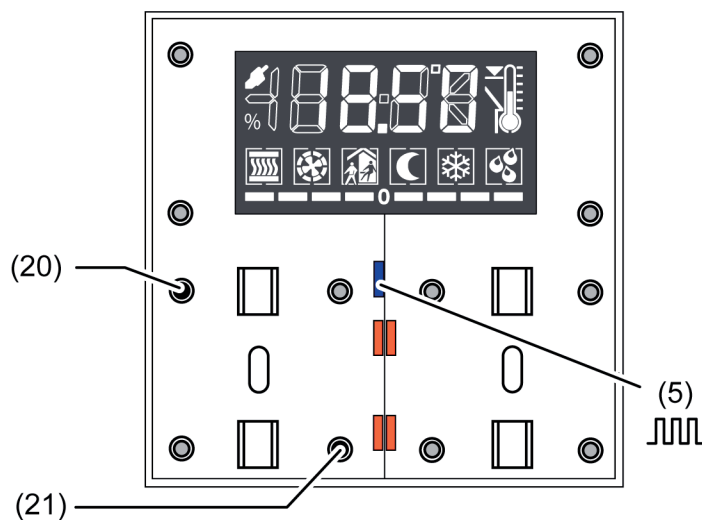

Figure 5: Buttons for activating Programming mode
- Activate Programming mode. Press push-button at the top left of rocker 1 (20) and keep it depressed (figure 5). Then press the second push-button at the bottom right of rocker 1 (21).